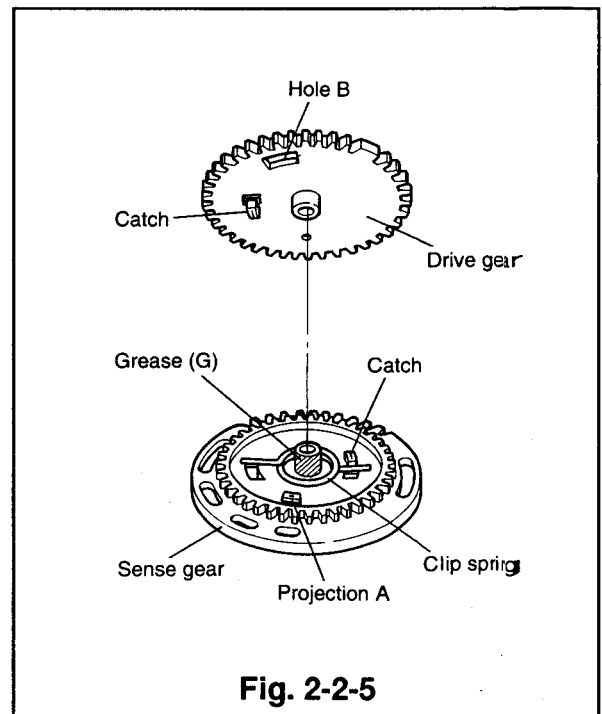

Fig. 2-2-5
- ② Apply the grease(G)[859D055050] to the area shown in Fig. 2-2-5 of the new sense gear.
- ③ Place the clip spring onto the drive gear hooking one end under the catch as shown in Fig. 2-2-5. Install the sense gear unto the drive gear so that hole A aligns with hole B. Hold the sense gear while turning the drive gear clockwise, in so doing engage the other end of the clip spring with the catch of the sense gear. The projection A of the sense gear must enter the hole B of the drive gear.
- ④ Ensure the spring action is effective by holding the sense gear and turning the drive gear slightly clockwise, observing whether the drive gear returns when released.